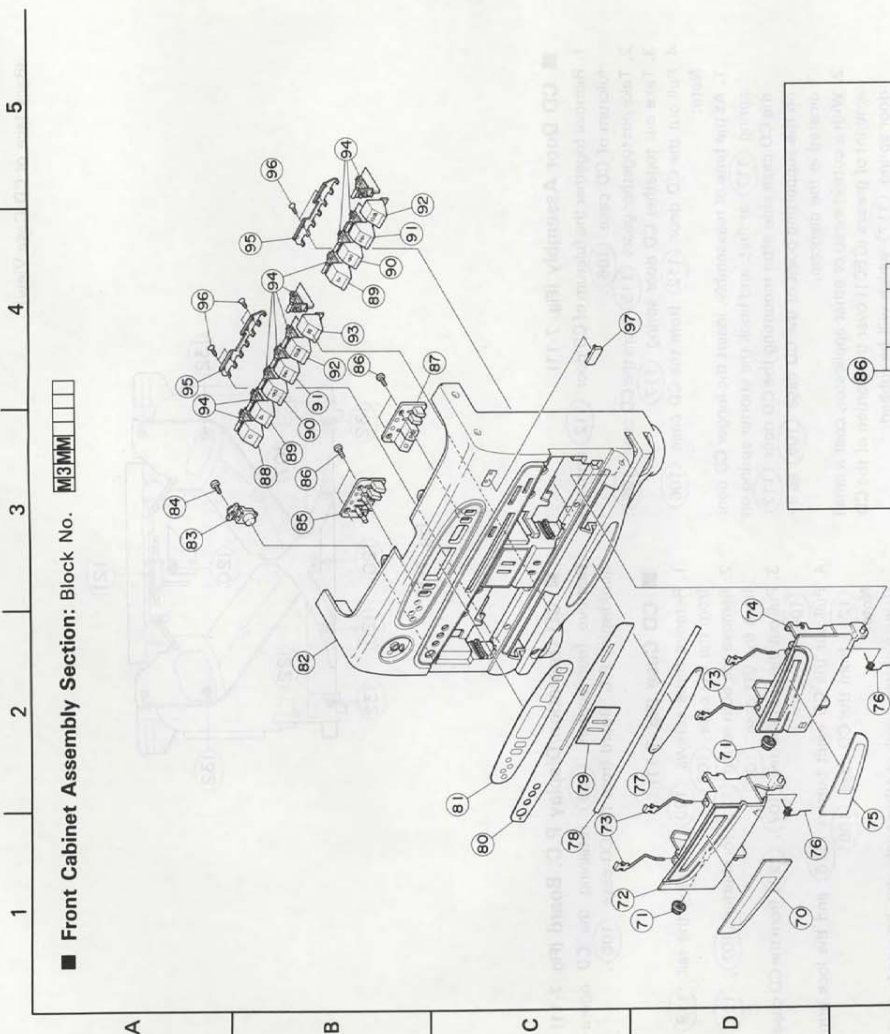

Fig. 7-9
■ Operation button (Fig. 7-9, 7-10)
1. Remove seven screws (96) retaining the both side button bracket (95) from the front cabinet (82).
2. Remove four screws (86) retaining the CD button (A) and (B) from the front cabinet (82).
3. Remove the screw (84) retaining the power button (83) from the front cabinet (82).